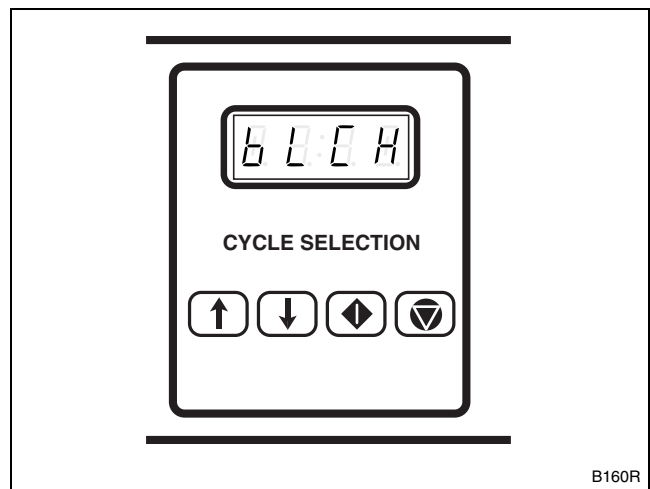

Figure 14
10. **When applicable**, add bleach when the display reads “bLCH”. Refer to *Figure 14*.